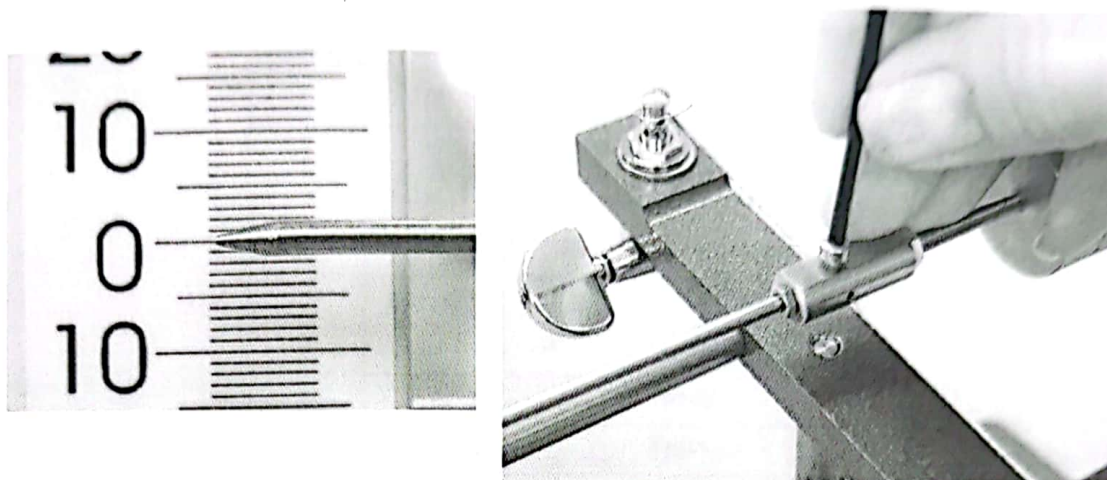

Figure 7 Clamp the Torsion Wire when the Pointer is Near to Zero
- 6) See Figure 7. Use the hexagon tool supplied to clamp the torsion wire in the pivot block when the balance arm pointer is near to zero ( $\pm 4$ ) on the scale. Tighten the pivot block fixing just enough to clamp the wire. Too tight and you may break the wire.